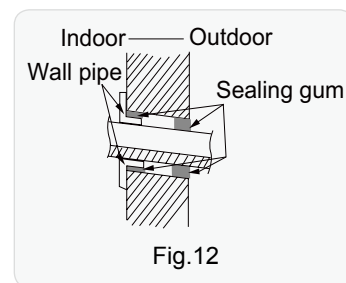

Fig.12
- (1) Put the bound pipes in the wall pipe and then make them pass through the wall hole.
- (2) Stuff the gap between pipes and wall hole with sealing gum.
- (3) Fix the wall pipe.(As show in Fig.12)